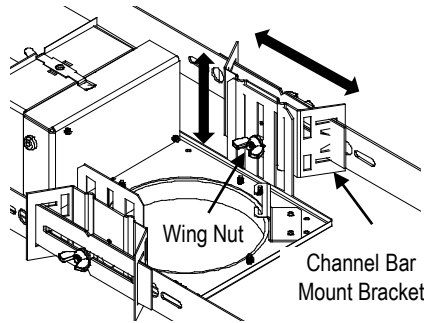
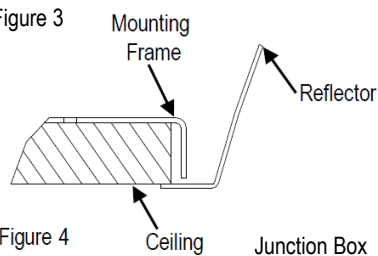

Figure 2
Figure 4
3. Position mounting frame neck through opening in ceiling. Adjust channel bars to the correct spacing between T-bar. (See Figure 2.)
5. Once mounting frame has been secured to structure, loosen wing nut (shown in Figure 2) to adjust the mounting frame vertically to align bottom edge of fixture to either flush or slightly above (1/8" max) the ceiling line as shown in Figure 4. Secure mounting frame into position by tightening wing nut.